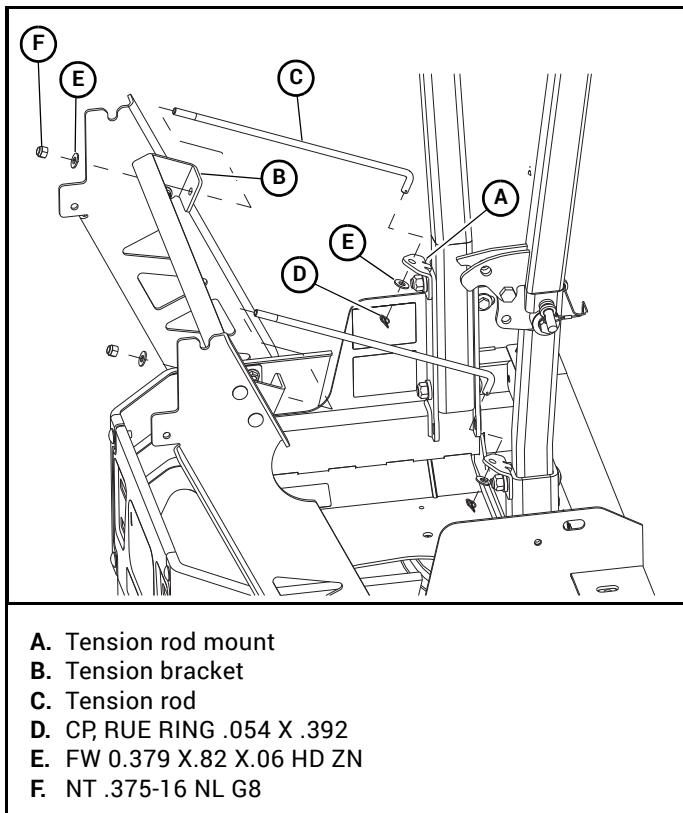

Figure 3-2
5. Install the tension rods as shown. Do not tighten the hardware at this time. Figure 3-2